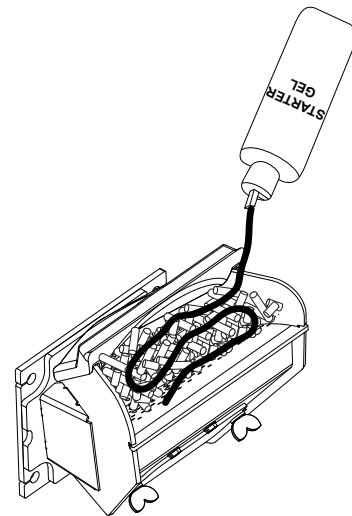

Fig. 15
6. Apply starting gel as shown in Fig. 15